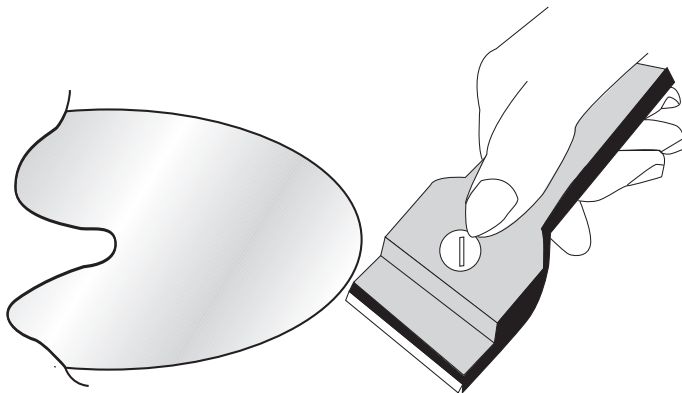

Fig.4
- If an object is placed above the controls, the cooking top will automatically move to the **OFF** position, (key switching on). When a plate is in the **OFF** position and the temperature is higher than 50° there will be a luminous signal "H" near to the respective selection key (Fig.4- 5- 6-7 H).